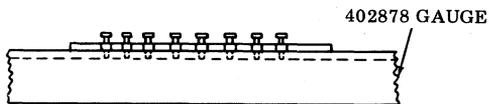

Fig. 45
7.02 Replace the type carrier. Before replacing type carrier, seat all pallets using 402878 gauge (Fig. 45). Gauge is marked for 80 column and 132 column. Be sure to use the proper side of gauge to match the printer being maintained. Reinstall type carrier starting at left pulley. Once carrier is in place, rotate impeller shaft by hand one complete revolution of the carrier to seat all pallets.